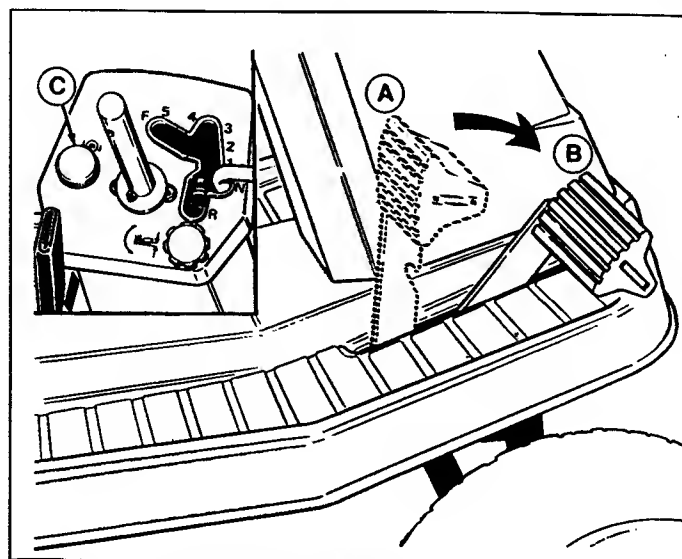
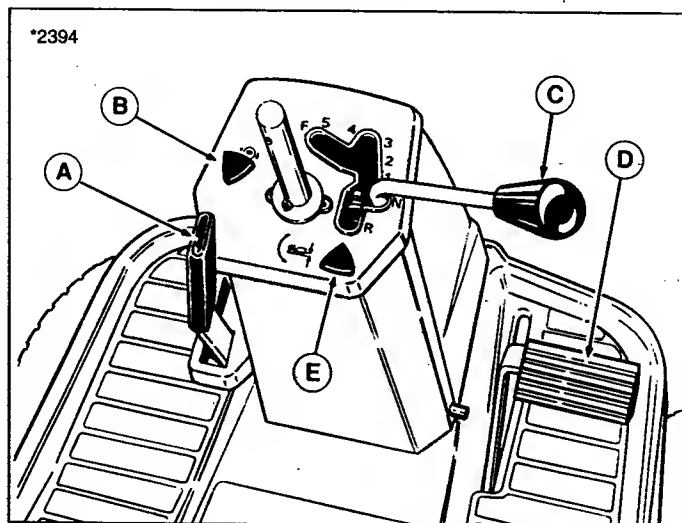

Figure 10. Clutch/Brake Pedal
Figure 11. Controls
- When traveling to or from the work site, fully raise the mower using the mower lift lever (A, figure 11). At the work site, lower mower using the lift lever.
- Use the Dial-A-Cut™ control (E, figure 11) to adjust the height of the mower. Pull back slightly on mower lift lever (A, figure 10) to relieve pressure and turn clockwise to raise mower cutting height, or counter-clockwise to lower cutting height.
1. See figure 10. Depressing the pedal from position A to B disengages the transmission drive and also returns the transmission control lever to neutral (from forward speeds). Fully depressing the pedal to position B applies the rider brake.
2. Parking brake is applied at pedal position B when parking brake control knob (C, figure 10) is pulled up with pedal fully depressed.
1. See figure 10. Depressing the clutch pedal from position A to B activates neutral start circuit, disengages the transmission drive belt and allows the gear lever to be shifted.
2. Fully depressing the clutch/brake pedal from position A to B applies the rider brake. Parking brake is applied at position B when parking brake control knob (C, figure 10) is pulled up with pedal depressed.
1. Seat yourself on the rider seat in the operating position. Set the parking brake using the clutch/brake pedal (D, figure 11) and parking brake knob (B).
2. Push down on the switch (G, figure 2) to disengage the PTO and place the ground-speed control lever (C, figure 11) in neutral.
according to how far the control lever (C, figure 11) is moved in the forward or reverse position.
On gear models, ground speed is selected by depressing the clutch/brake pedal (D, figure 11) and moving the control lever (C, figure 11) to the appropriate gear selection. Most mowing is done in 3rd or 4th gear with engine set at full speed. If the terrain is rough, hilly or sloping, use first or second gear. If the grass is wet or over 3" (76mm) high, use full engine speed (with low gear) so the mower will have enough power to cut the grass.
1. If you are ready to mow, lower the mower from the transport position using lever (A, figure 11) and set the mowing height using the Dial-A-Cut™ Control (E, figure 11).
4. Release the parking brake by depressing clutch/brake pedal (D, figure 11) and pushing knob (B) down.
5. **On hydro models**, move the ground speed control lever (C, figure 11) to the desired direction and speed of travel to set the rider in motion.
1. **On hydro models**, move the ground speed control lever (C, figure 11) into the NEUTRAL position to make a gradual stop. To make a more rapid stop, depress the clutch/brake pedal (D, figure 11).
On gear models, press the clutch/brake pedal (D, figure 11) down only far enough to disengage the clutch to make a gradual stop. For a more rapid stop, press pedal down farther to apply the brake. Move the ground speed control lever to NEUTRAL before releasing the pedal.
2. Engage the parking brake by fully depressing clutch/brake pedal and pulling up on parking brake knob (B, figure 11).
2. Place the mower in the transport position (up) using the mower lift lever (A, figure 11).
3. Depress the clutch/brake pedal and place the ground speed control lever (C, figure 11) in the neutral position.